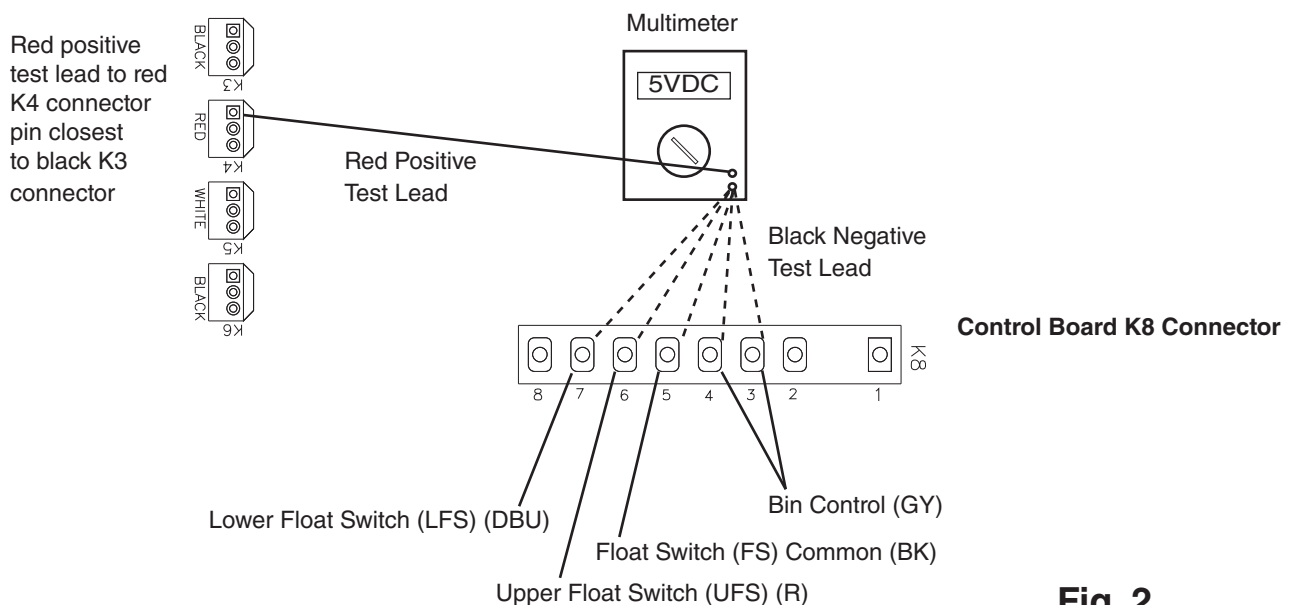

Fig. 2
- **5VDC CB K8 Connector:** See Fig. 2.